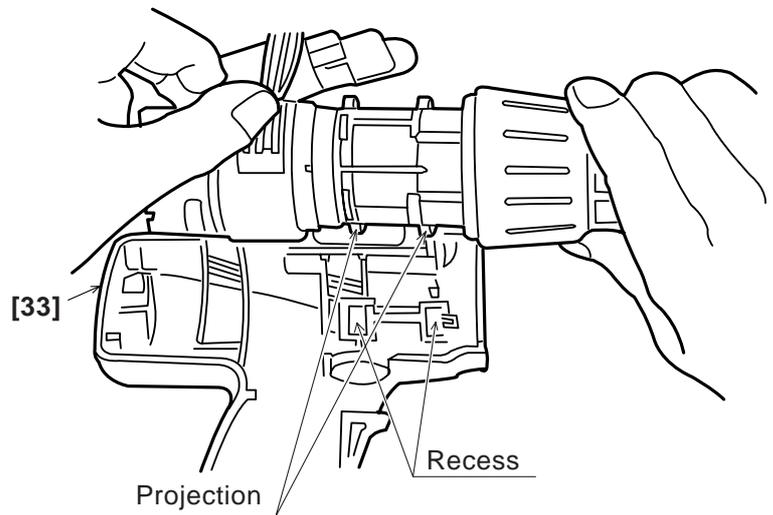

Fig. 11
(b) Install the reassembled state in step (3) into Housing (A) [33]. Note that the projections on the Front Case [11] and the Motor Spacer [26] are engaged in the recess in Housing (A) [33]. (See Fig. 11.)